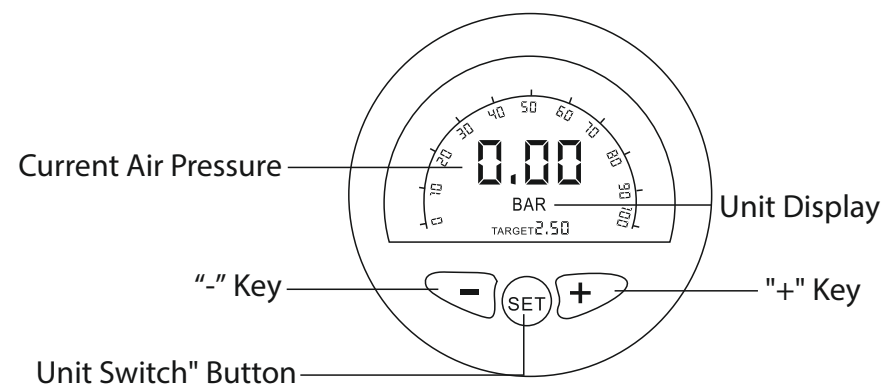

Fig. 2
4. Place the device on a preferably flat surface and set the preferred tyre pressure on the digital dial (Fig 2).